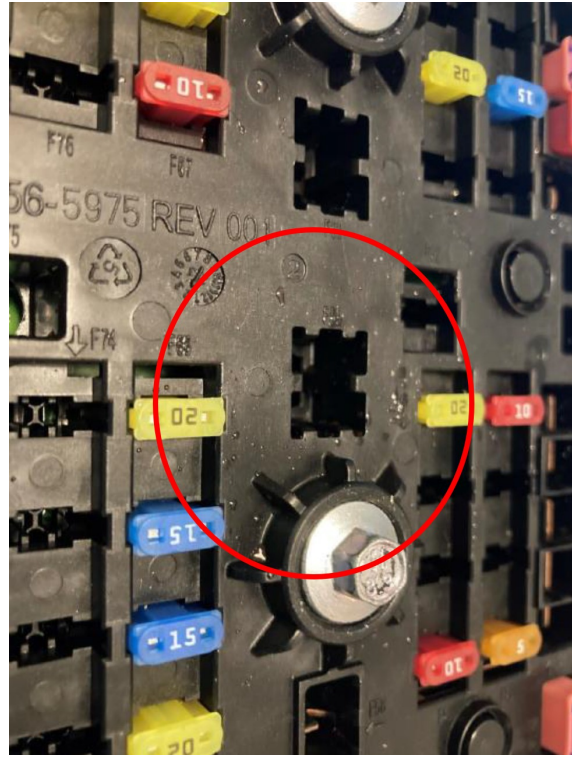

Fig. 1
3. Either visually inspect the PDC for traces of engine coolant (Fig. 1) on or near the fuses, if this is not possible the use of an ultraviolet light may be used.
4. Are traces of engine coolant found on, or near the PDC fuses (Fig. 1) ?